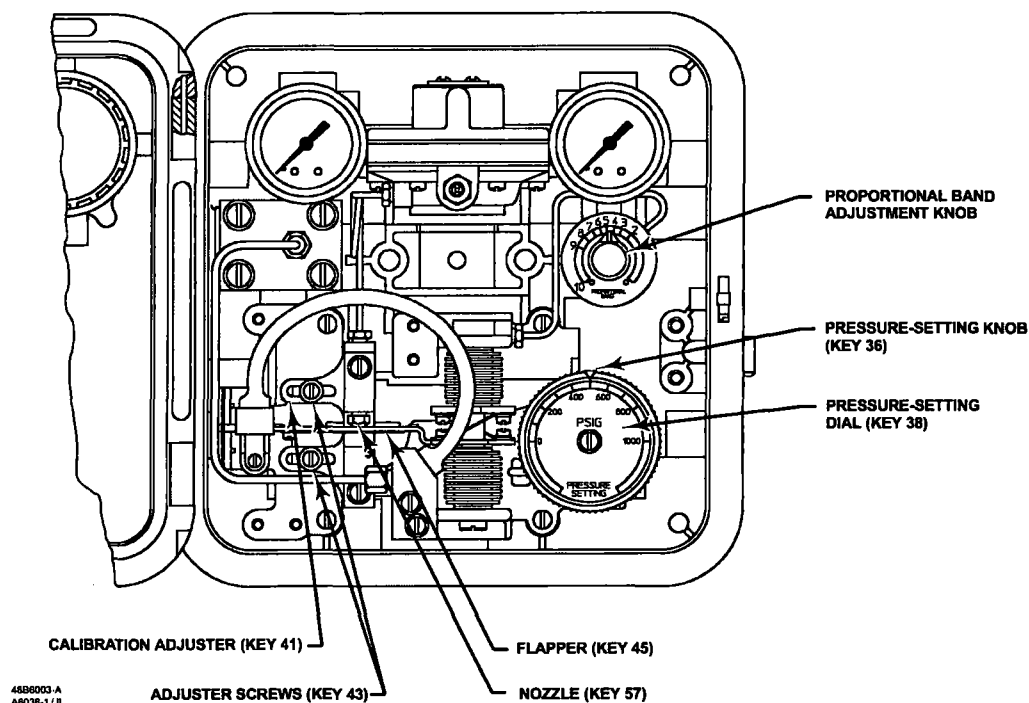

Figure 5. Proportional-Only Controller Adjustment Locations
This section describes the adjustments and procedures for calibration and startup. Adjustment locations are shown in figure 5 unless otherwise specified. All adjustments must be made with the cover open. When
Unless otherwise indicated, key number locations are shown in figure 5.
2. Rotate the proportional band knob, shown in figure 5, to 1.5 (15 percent proportional band).
3. Verify that the calibration adjuster screws (key 43) are at mid-position in the calibration adjuster (key 41) slots.